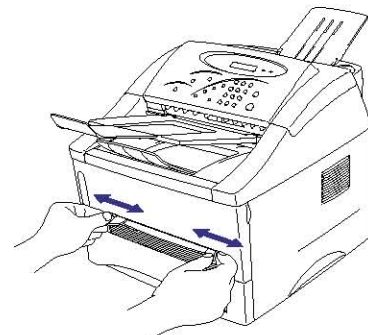

Fig. 2-21
- (1) Select the manual feed mode in the printer driver, and send the print data to the printer.
- (2) Set the width of the manual feed slot paper guides using both hands to the paper width to be used. (Fig. 2-21)